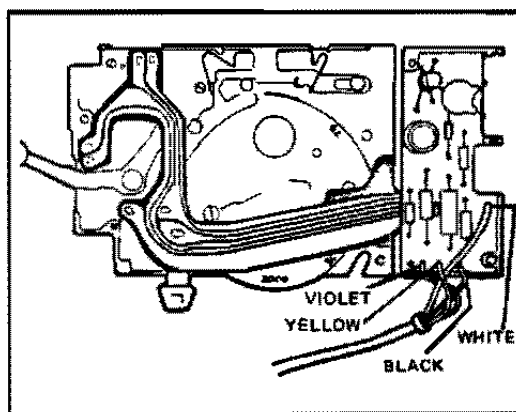

FIG. 4-2 LOCATION OF WIRES ON ELECTRONIC MODULE
- a. Solder the four leads to the printed circuit board of a new base block and electronic mounting board assembly. Use Figure 4-2 as a guide for the solder locations of the four leads.